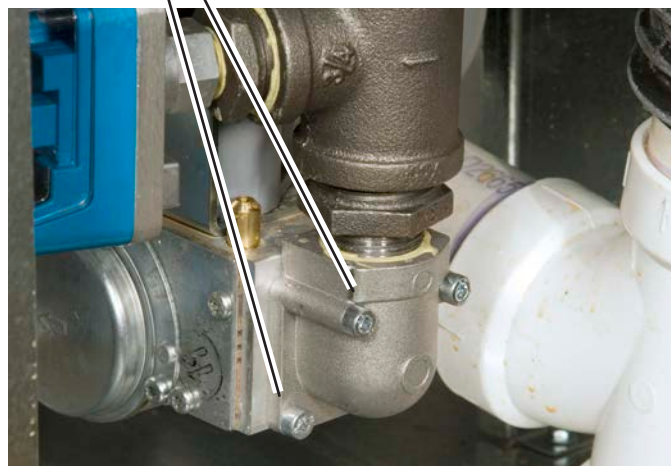

Fig. B11-5 - Undo the four screws at the right end of the assembly
8. On the right end of the assembly, remove the four socket-head cap screws which attach the gas inlet pipe to the assembly. See Fig. B11-5. Use the 4mm Allen wrench. Notice that the two screws on the bottom of the assembly are shorter.